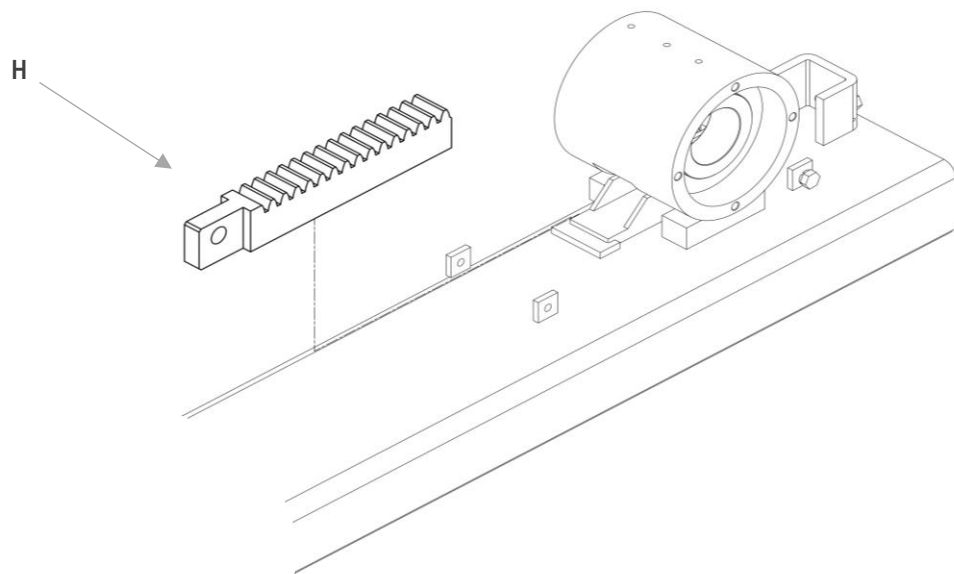

Figure 45
4. Once all the above procedures have been carried out, rack **H** is free to be extracted towards the rear of the mount (see Figure 45)